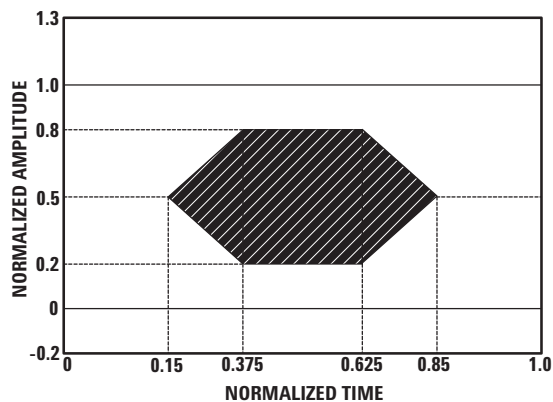

Figure 1. Transmitter optical eye diagram mask.
| Optical Rise / Fall Time | t_r/t_f | | | 0.26 | ns | 3, 4, Figure 1 |
- Laser transmitter pulse response characteristics are specified by an eye diagram (Figure 1). The characteristics include rise time, fall time, pulse overshoot, pulse undershoot, and ringing, all of which are controlled to prevent excessive degradation of the receiver sensitivity. These parameters are specified by the referenced Gigabit Ethernet eye diagram using the required filter. The output optical waveform complies with the requirements of the eye mask discussed in section 38.6.5 and Fig. 38-2 of IEEE 802.3z.